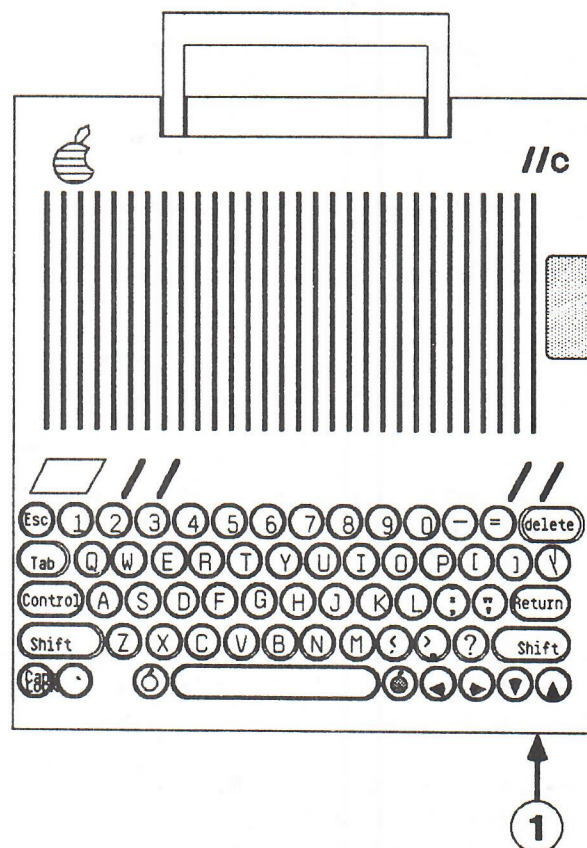

FIGURE 5
2. Push the handle into carrying position, as in Figure 5.
6. Grasp the sides of the IIc at the front so that your thumbs meet in the front center of the top cover (see Figure 5, #1).